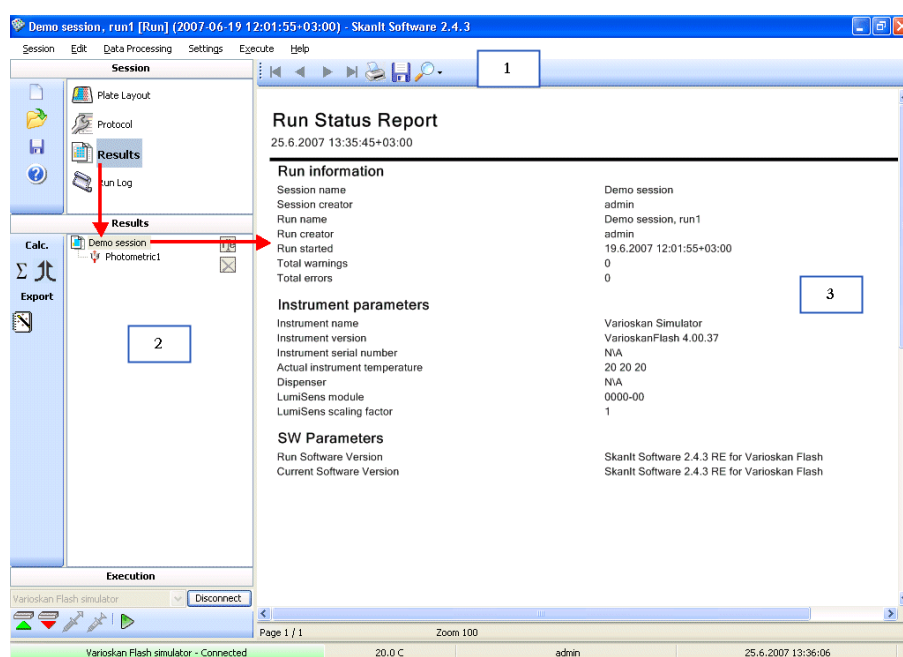

Figure 3-4. Main window for results viewing - status reports
- When the session is selected (circled in Figure 3-4), the run status report can be viewed.